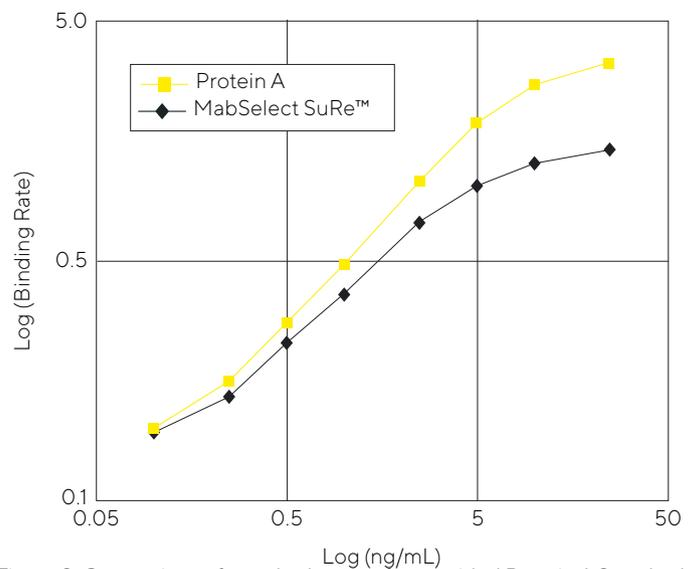

Figure 3: Comparison of standard curves for provided Protein A Standard and MabSelect SuRe[™].
- 1. Selection of Protein A Standard:** The Protein A standard provided in the kit is unconjugated Pierce[™] Recombinant Protein A (Thermo Scientific #21184). It functions similarly to native Protein A and can be used to accurately quantitate similar recombinant Protein A constructs. An important exception is MabSelect SuRe[™] from GE Healthcare. MabSelect SuRe[™] has significantly modified structure compared to more natural recombinant Protein A constructs, and is recognized differently by Protein A antibodies. These differences can result in quantitation inaccuracies against the included Protein A Standard (Figure 3).